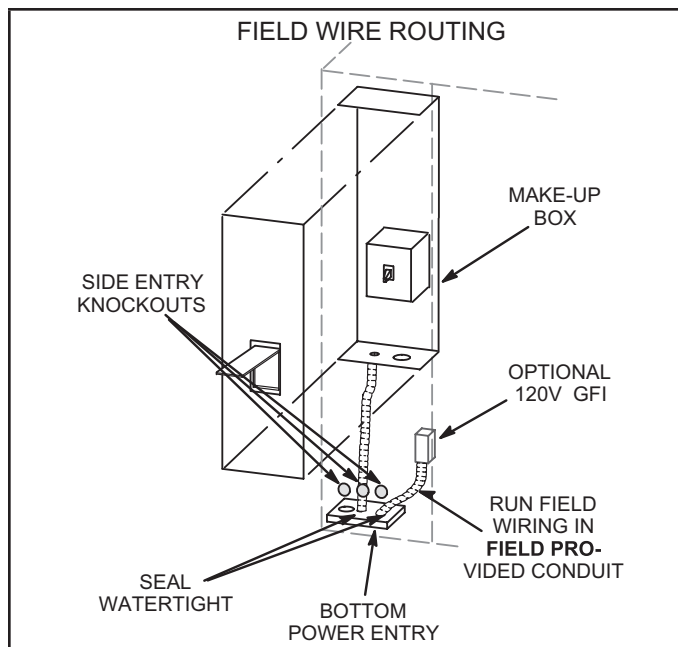

FIGURE 13
Route field wiring in conduit between bottom power entry disconnect. See FIGURE 13. This does not supersede local codes or authorities having jurisdiction.
- 3 - Connect separate 120v wiring to optional GFCI outlet. Route field wiring in conduit between bottom power entry and GFCI. See FIGURE 13.